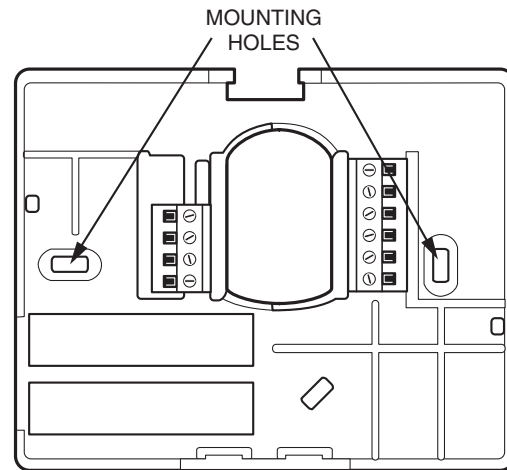

Fig. 2 — Backplate Mounting
4. Route thermostat wires through large hole in backplate. Level backplate against wall (for appearance only, the thermostat does not need be leveled for proper operation) and mark wall through two mounting holes. See Fig. 2.